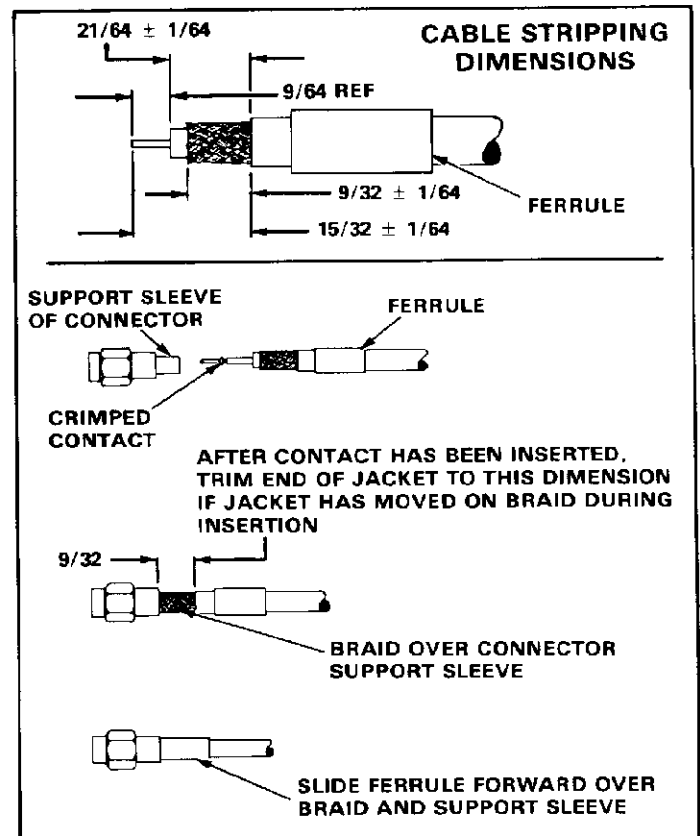

Fig. I-2
- Slip ferrule onto cable, and strip cable to dimensions shown in Figure I-2.